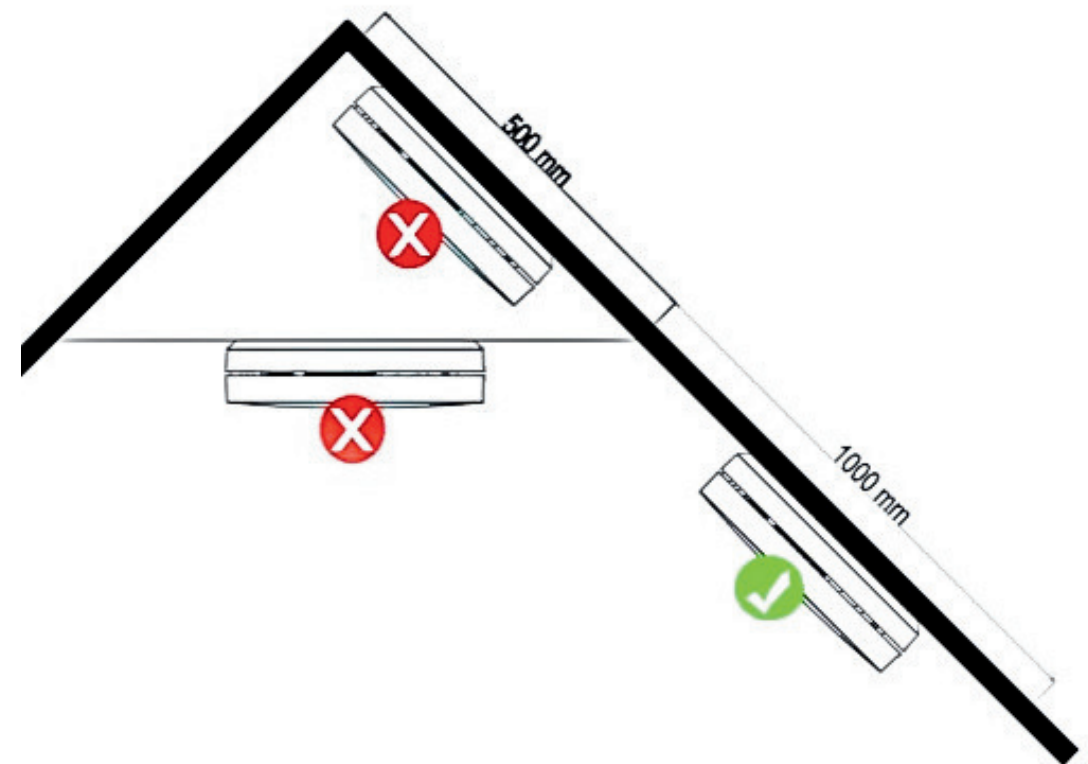

Figure 4: Recommended mounting locations
- Check figure 4 and 5 for correct mounting locations. Most EU countries require smoke detectors on all floors and escape routes.